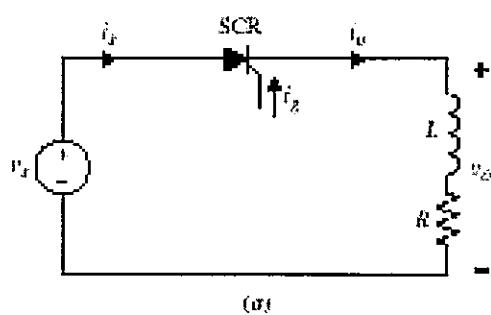

Figure 2.7 – Single Phase Half Wave Controlled Rectifier With Resistive and Inductive Load Circuit
2. Connect the circuit according to the circuit diagram in Figure 2.7 given.